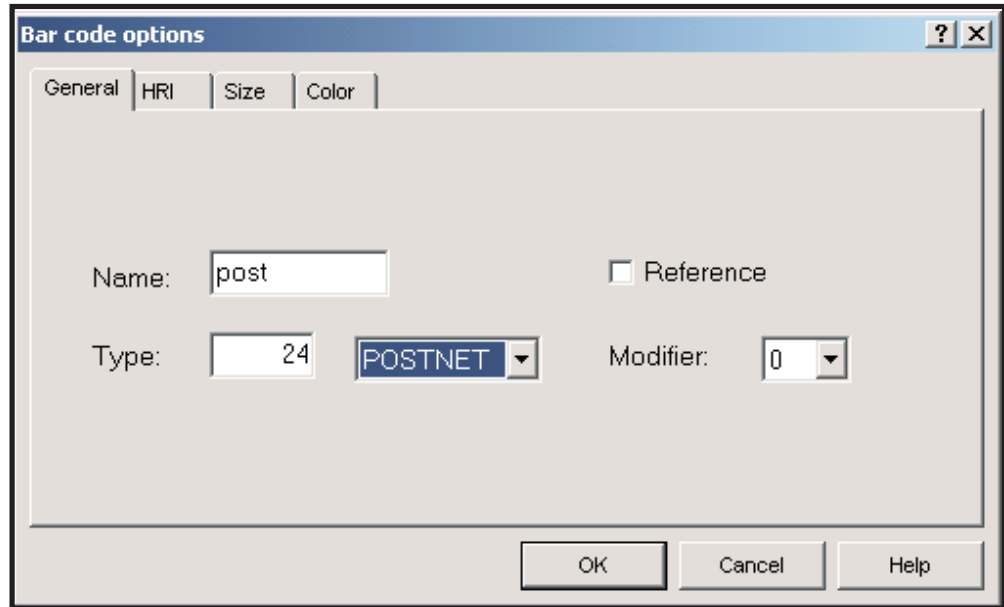

Figure 130. Bar Code Options Dialog
- To map the zip code as a bar code, select the first five digits of the zip code in the data window. Drag the data onto the **View/Edit** window and place it beneath the address block. Right-click it to open the **Field properties** dialog. Click the **Bar code** button on the **General** page to open the **Bar code options** dialog, as shown in Figure 130 on page 211. Enter a name for this type of bar code (for example, POST), then select POSTNET as the bar code type and click **OK**.